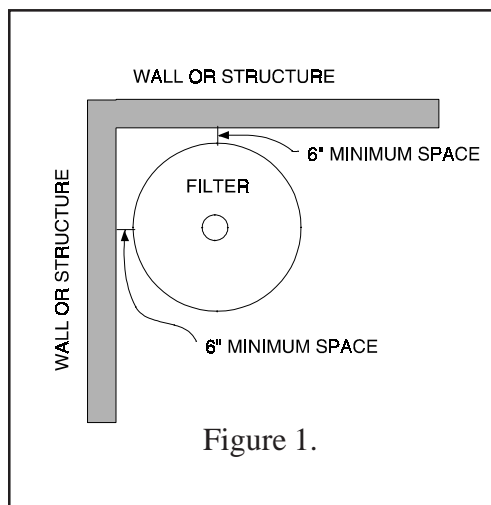

Figure 1.
2. Install electrical controls (e.g., on/off switches, timers control systems, etc.) at least five (5) feet from the filter. This will allow you enough room to stand clear of the filter during system start up, see Figure 1.